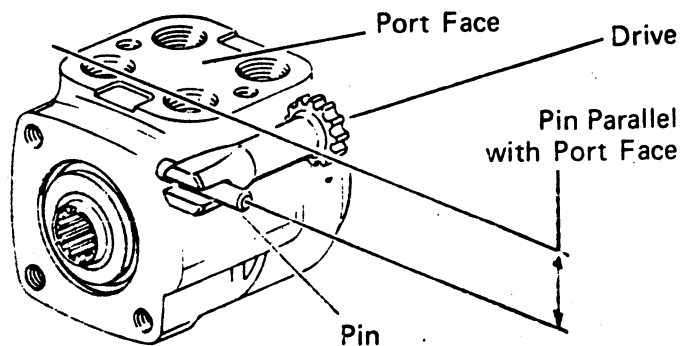
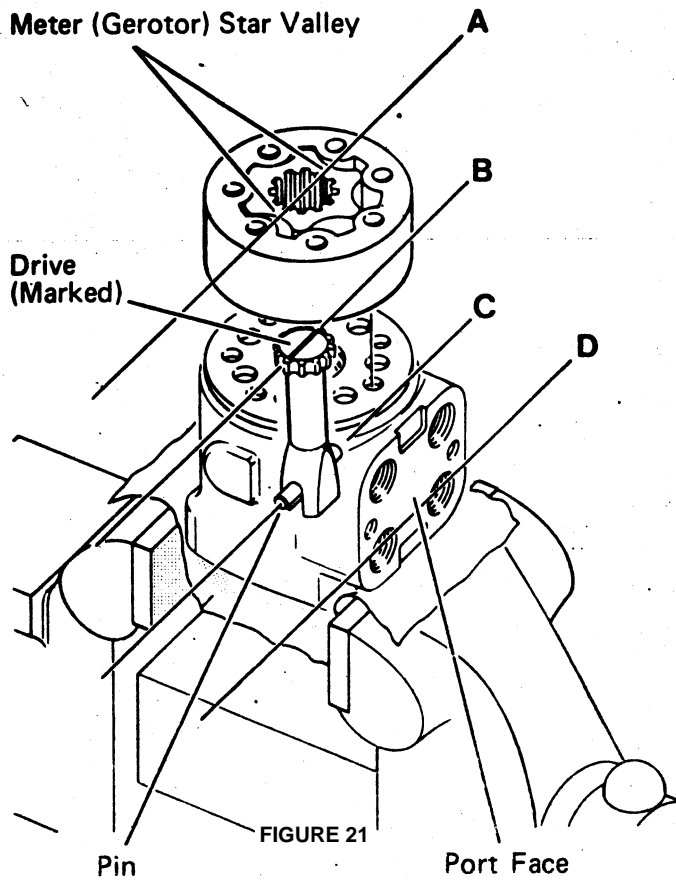

FIGURE 19
FIGURE 21
12. Install **dry** quad ring seal in seal gland bushing, Smooth seal in place with your finger. Do not use any seal that falls freely into pocket of bushing , see Fig. 19.
18. Rotate spool and sleeve assembly until pin is parallel with port face, see Fig. 19. Install drive, make sure you engage drive with pin, To assure proper alignment, mark drive as shown in Fig. 21 (ref. B). Note relationship between slotted end of drive to splined end of drive when marking.
20. With seat side of meter toward spacer plate, align star valleys (ref. A) on drive (ref. B). Note the parallel relationship of reference lines A, B, C, and D - Fig. 21. Align bolt holes without disengaging meter from drive.